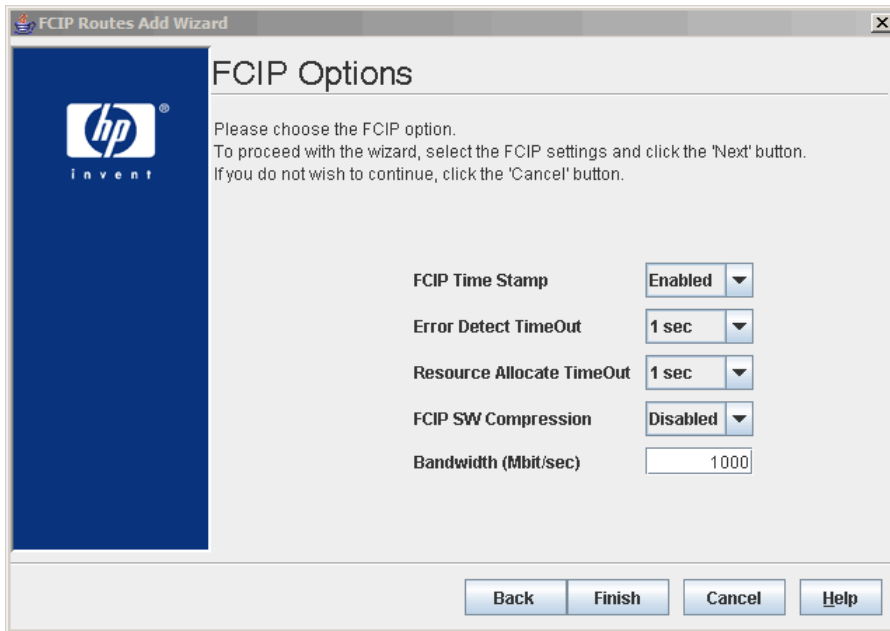

Figure 39 FCIP route add Wizard—FCIP options dialog box
5. Enter FCIP parameters per the **FCIP Options** dialog box, see Figure 39.